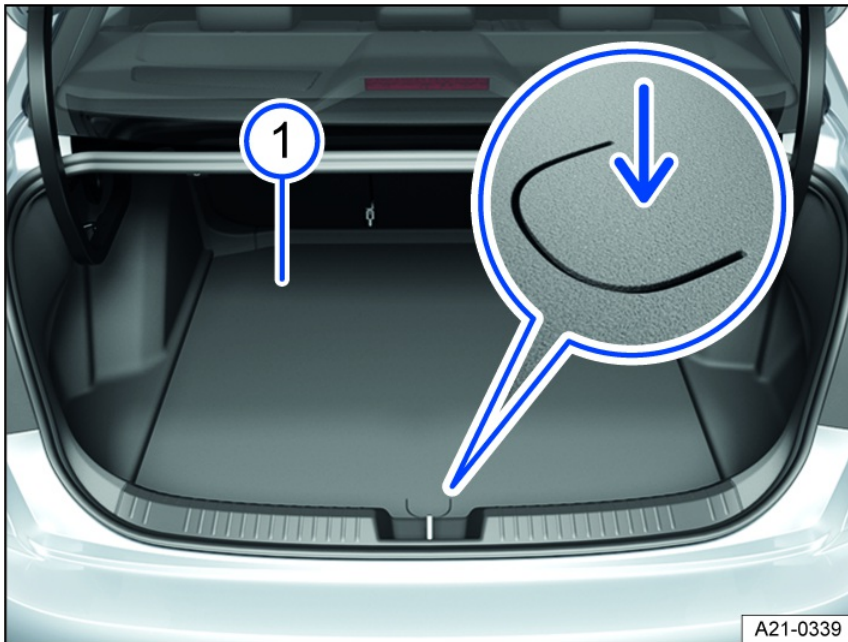

Fig. 131 In the luggage compartment: opening the luggage compartment floor.
1. Grasp the opening or tab in the luggage compartment floor fig. 131 (arrow) and lift the luggage compartment floor.